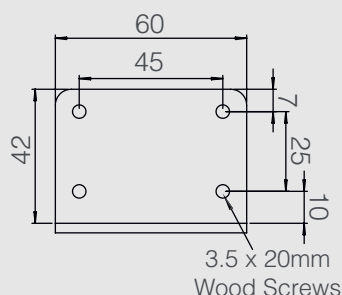

Fig 2
5. Attach the angle bracket to the underside of the desk using suitable fixings (Fig 2).